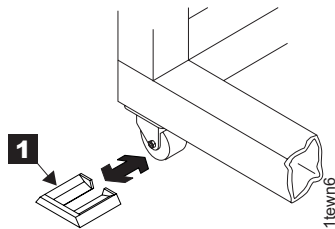

Figure 12. Wedge chocks
14. Install the wedge chocks **1** (located in the ship group) on all four casters. If caster locks are available, engage the caster locks on all casters. Refer to Figure 12.